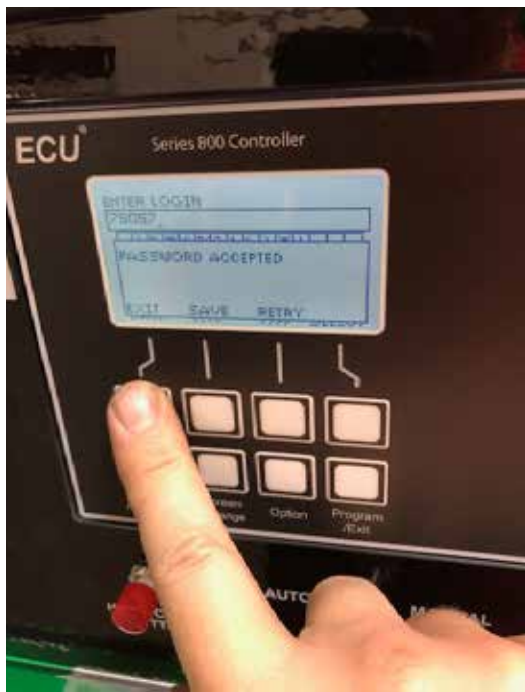

Figure 15. Exit Button
9. Press the **EXIT** button (Figure 15).